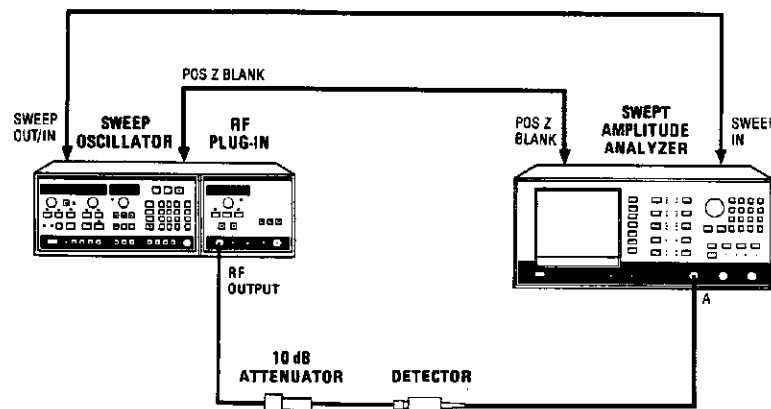

Figure 5-37. Internal Leveling Adjustment Test Setup
1. Connect the equipment as shown in Figure 5-37 with the HP 8756A Swept Amplitude Analyzer monitoring the RF OUTPUT through the 10 dB Attenuator. On the Model 8350A/B, press [INSTR PRESET] [L] [MOD]. Allow the equipment to warm up for one hour.